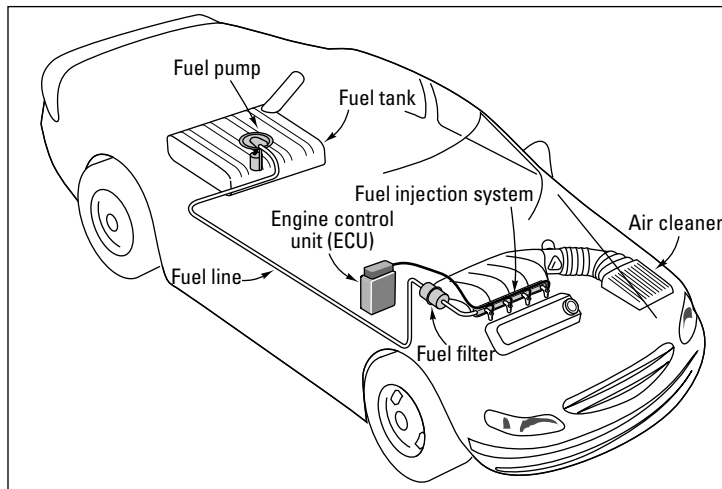

Figure 4-3: The fuel system.
4. Now the **fuel system** comes into play (see Figure 4-3): If you drive a vehicle with an **internal combustion engine (ICE)**, whether your vehicle is more than 20 years old or just 20 days old, has **fuel-injection** or a **carburetor**, it probably has the same basic parts in its fuel system with one exception: On modern vehicles, the fuel system — along with most other systems — is controlled by the **ECU**. Chapter 7 explores the fuel system in detail, and Chapter 8 tells you how to keep it in tune.